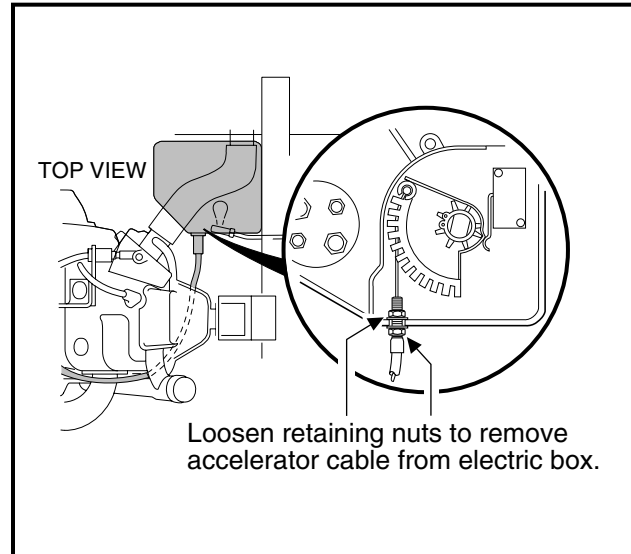

Figure 16-15 Accelerator Cable
- 5.7. Loosen the hardware securing the accelerator cable to the box and disconnect the cable from the actuator cam and remove it from the box (**Figure 16-15, Page 16-9**).